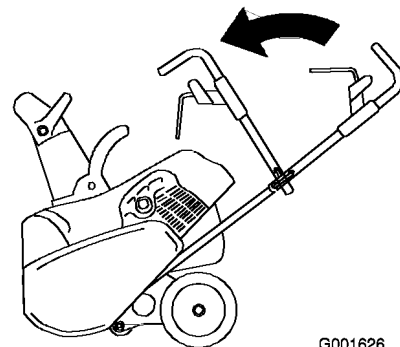

Figure 26
2. Fold the upper handle forward as shown (Figure 26).